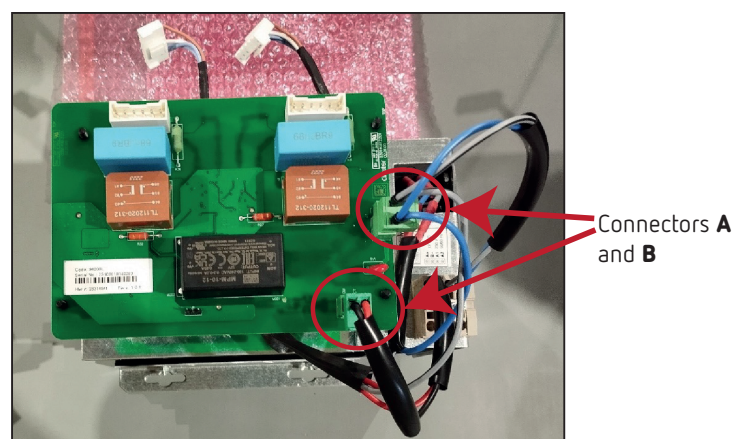

Figure 3: Step 3.
- 3.- Connect connectors **A** and **B** to the PCB, **Figure 3**.